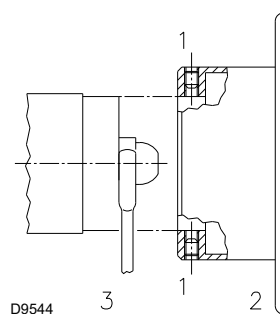

Fig. 20
- fix it with the spanner through the central hole of the flame stability disk or loosen the screws 1)(Fig. 20);